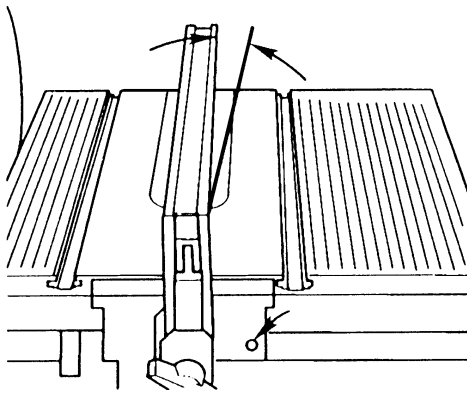

Figure C-21
2. Mount the rip fence on the table, but don't lock it yet. With a $5/32$ " Allen wrench, adjust the setscrew in the base to offset the fence. See Figure C-21. When properly adjusted, the rip fence should be $1/32$ "- $1/16$ " closer to the disc at the front of the table than at the back.